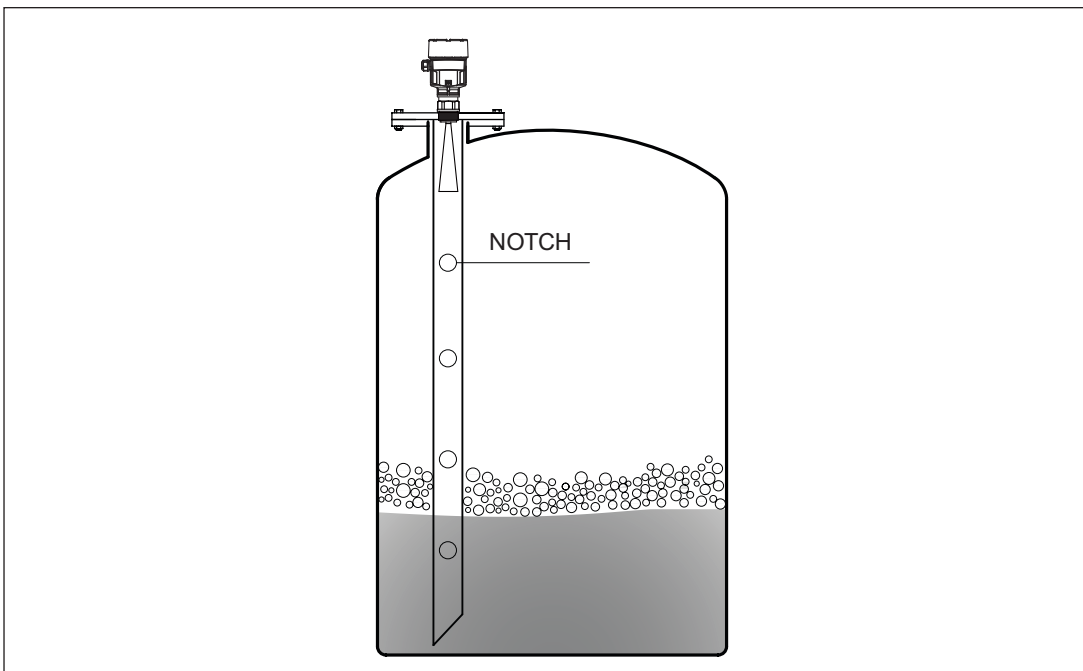
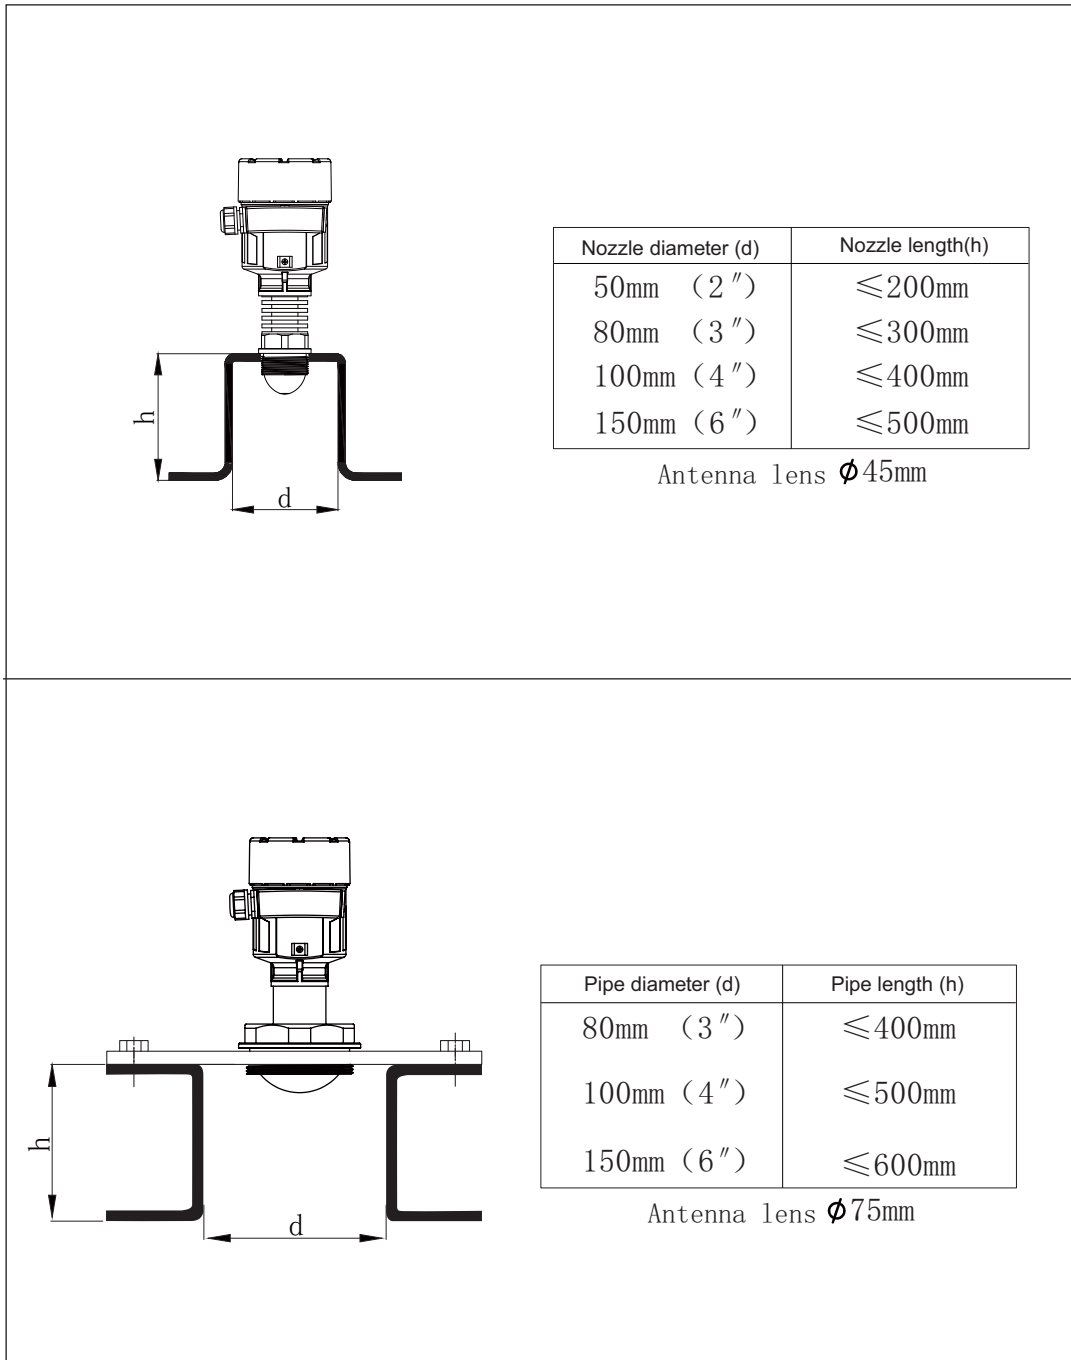

Figure 8
Figure 11
- ▶If the nozzle length of the container is long, please refer to figure 11. The longest installation short nozzle should be smaller than the size shown in Figure 8 as far as possible, and the end must be ground flat without burrs and other protrusions. If necessary, using the "false echo storage" function to eliminate the reflected signal at the end of the container nozzle can also obtain a better measurement effect.